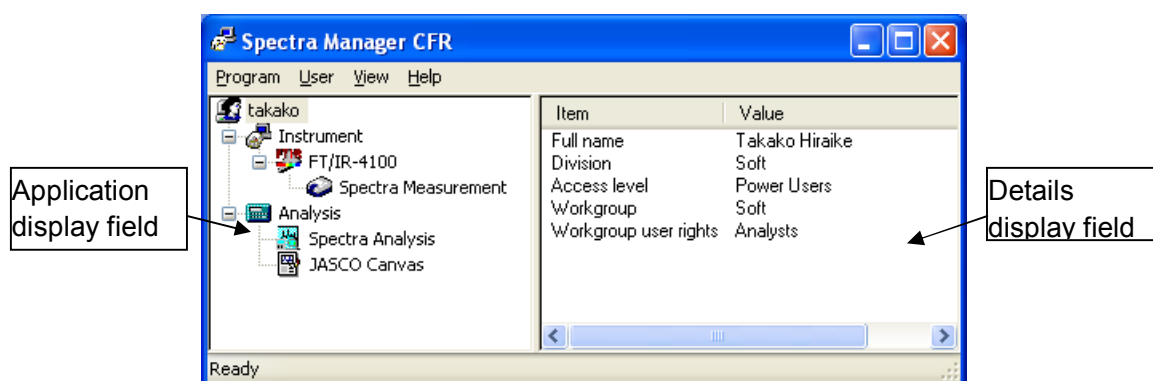

Figure 2.3 [Spectra Manager CFR] window
- (2) Type "Administrator" in the [Username] text box and click the <Logon> button, leaving the [Password] text box blank. The [Spectra Manager CFR] program is started (Fig. 2.3). Clicking the <Cancel> button exits [Spectra Manager CFR].